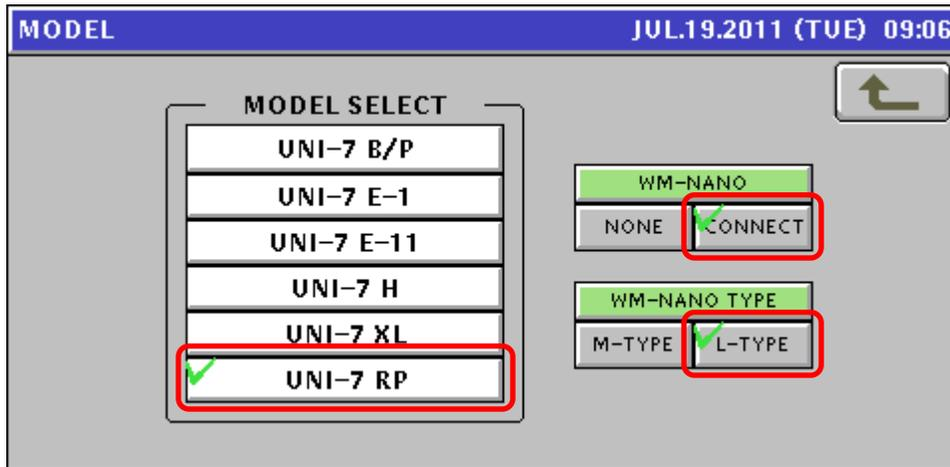

Figure 5.3. Model Selection – Uni-7 RP and WM-Nano
- e. Set the Model configuration as follows. See Figure 5.3.